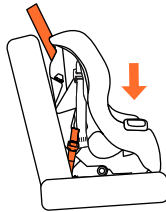

Fig. 31b
5. Put weight in seat with hand to compress the vehicle seat cushion then insert the buckle tongue into the buckle and adjust seat belt as tight as possible (Fig. 31b).